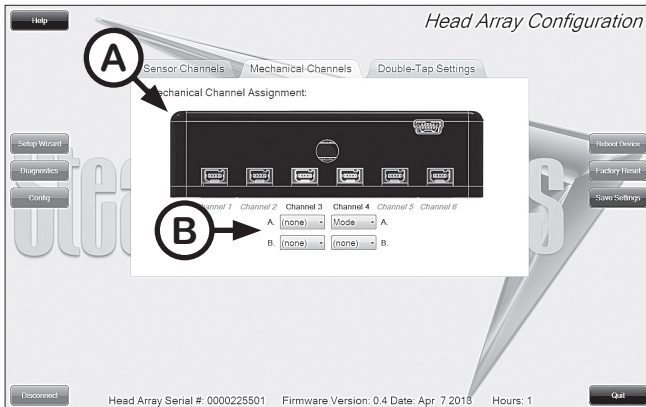

Fig.3.4.3
- B. Mechanical Channels Tab** - Navigates to the Mechanical Channels menu (see Fig.3.4.3 on p17)